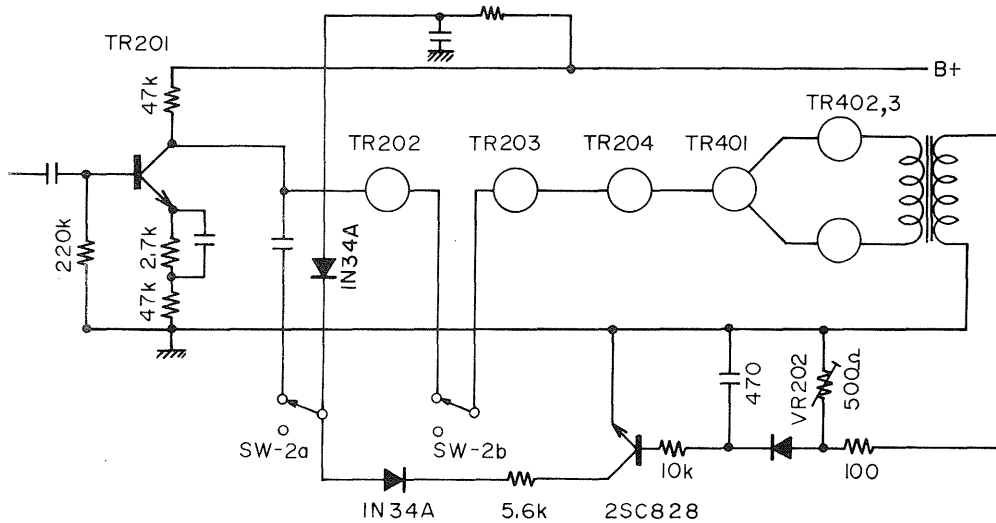

Fig. 3
- Connect the V.T.V.M. to point (A).
- Turn the Volume Control VR-1a (10K-A) until the output level at point (A) reaches 0.9 V.
3. A.G.C. (AUTOMATIC GAIN CONTROL) ADJUSTMENT (Fig. 3)